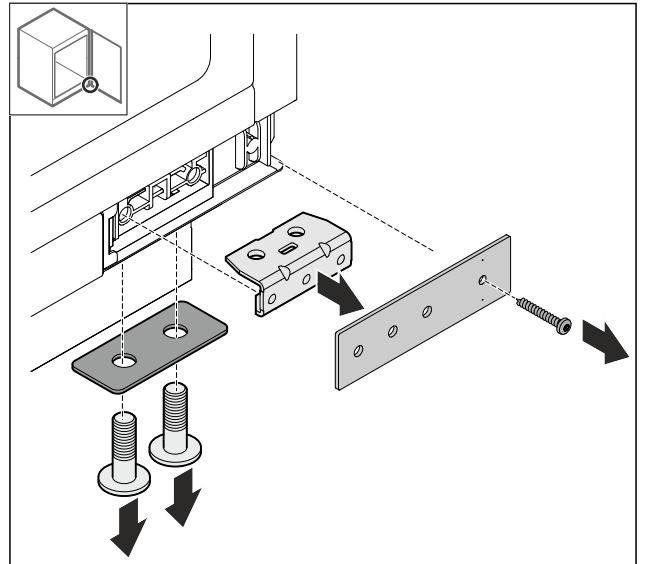

Fig. 40
- ▶ Detach the bracket Fig. 40 (2).